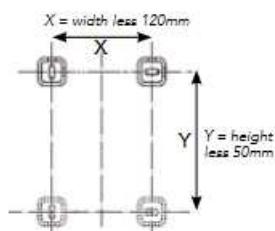

**Fig 3**
1. Mark bracket positions as per **Fig. 3**, measure the width (X) of the radiator less 120mm and the height (Y) of the radiator less 50mm to find your four fixing positions for the Wall sleeves.